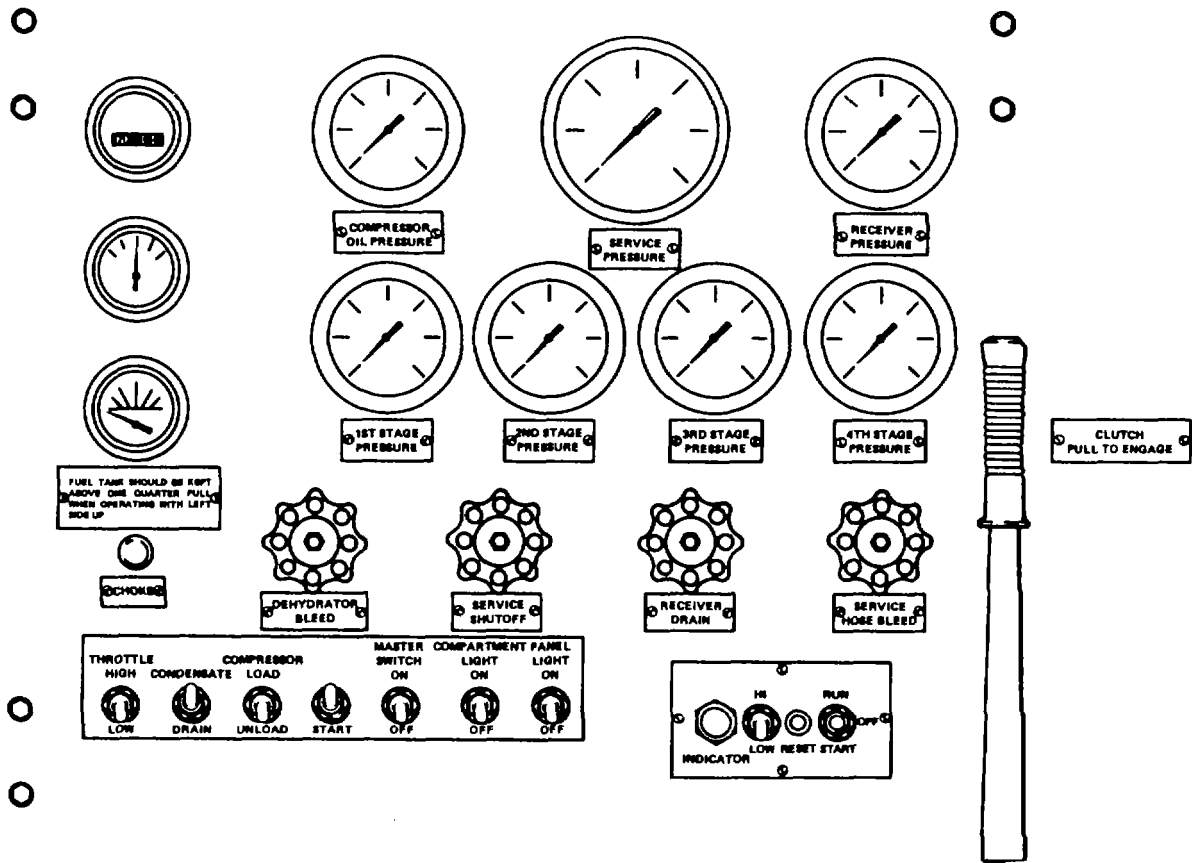

Figure 4-2. Instrument Panel
- g. Instrument Panel. The instrument panel (Fig. 4-2) contains all controls, valves and switches to properly start, operate and stop the engine, compressor and heater. In addition, all instrumentation necessary to operate and monitor the compressor system is provided.